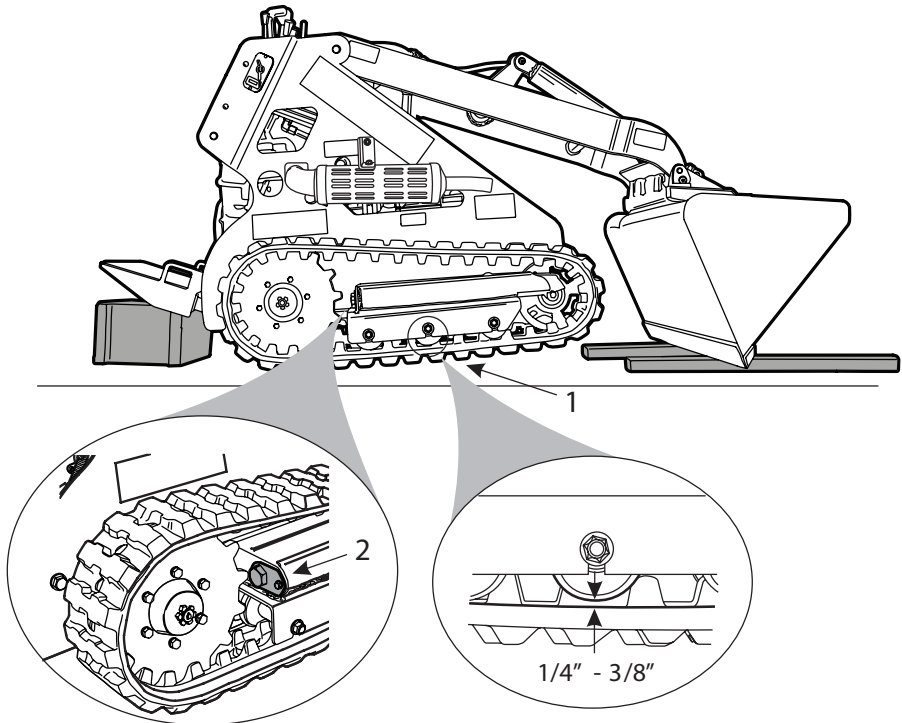

Figure 4-11 Track Deflection Measurement and Adjustment
- Raise the machine off the ground and support it using a device capable of safely supporting 4,000 lbs. See **Figure 4-11** or suggested location of the support devices.
- Tilt the bucket downwards until the cutting edge is touching the ground. See **Figure 4-11**.
- Measure the gap between the bottom of the center bogey guide roller (Item 1, **Figure 4-11**) and the track. The proper tension will be about a 1/4" - 3/8" deflection.